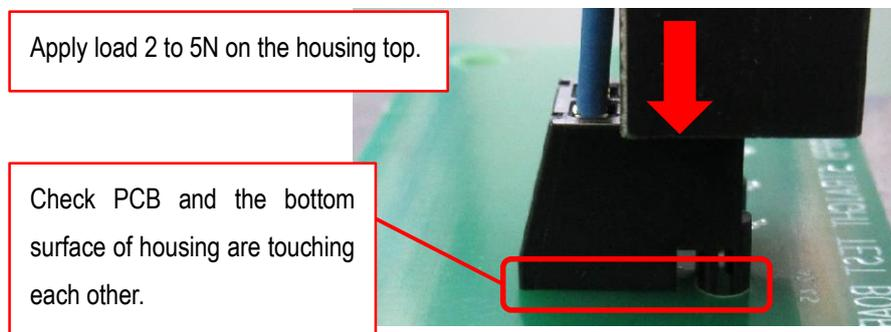

Fig.25 Pressing load
- Recommend that ensure the PCB and the bottom surface of the housing are touching each other in applying the load of 2N to 5N. (See Fig.25)